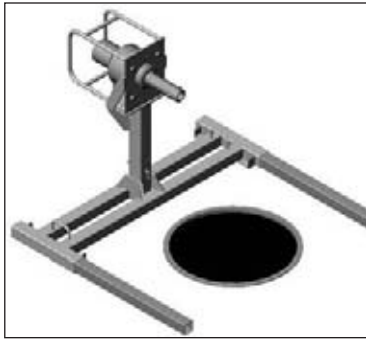
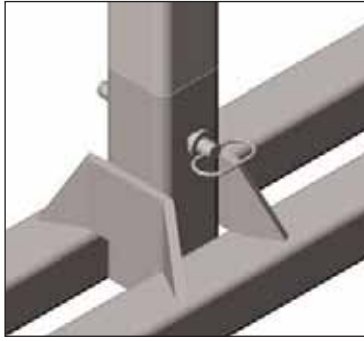

Figure 2
Figure 2a (Hitch Pin Detail)
2. Place the hydraulic motor assembly into the puller stand socket with the shaft extending over the pull box or manhole as shown in Fig. 2. Install hitch pin to secure motor assembly in stand as shown in Fig. 2a.
Cannot install hitch pin into motor and stand after assembly.	<p>Make sure the motor assembly is properly installed into the stand assembly, (See fig. 2 on page 8).</p>